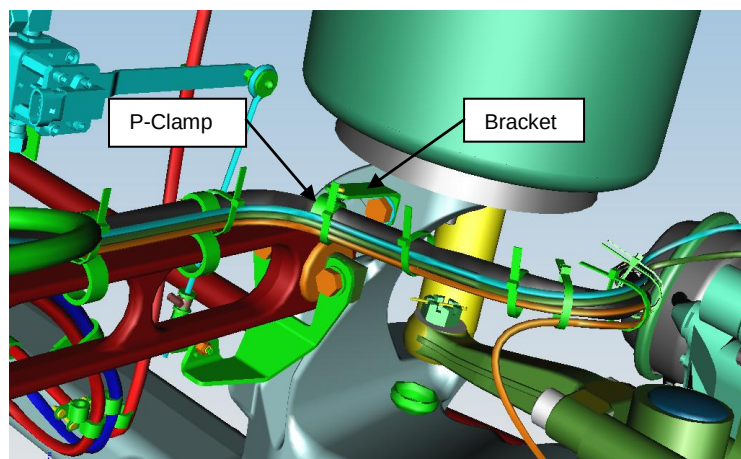

Figure 2: Existing P-Clamp & Bracket.
4. Remove and discard the P-clamp that attaches the air hose to the bracket and then unbolt and discard the bracket. Figure 2.